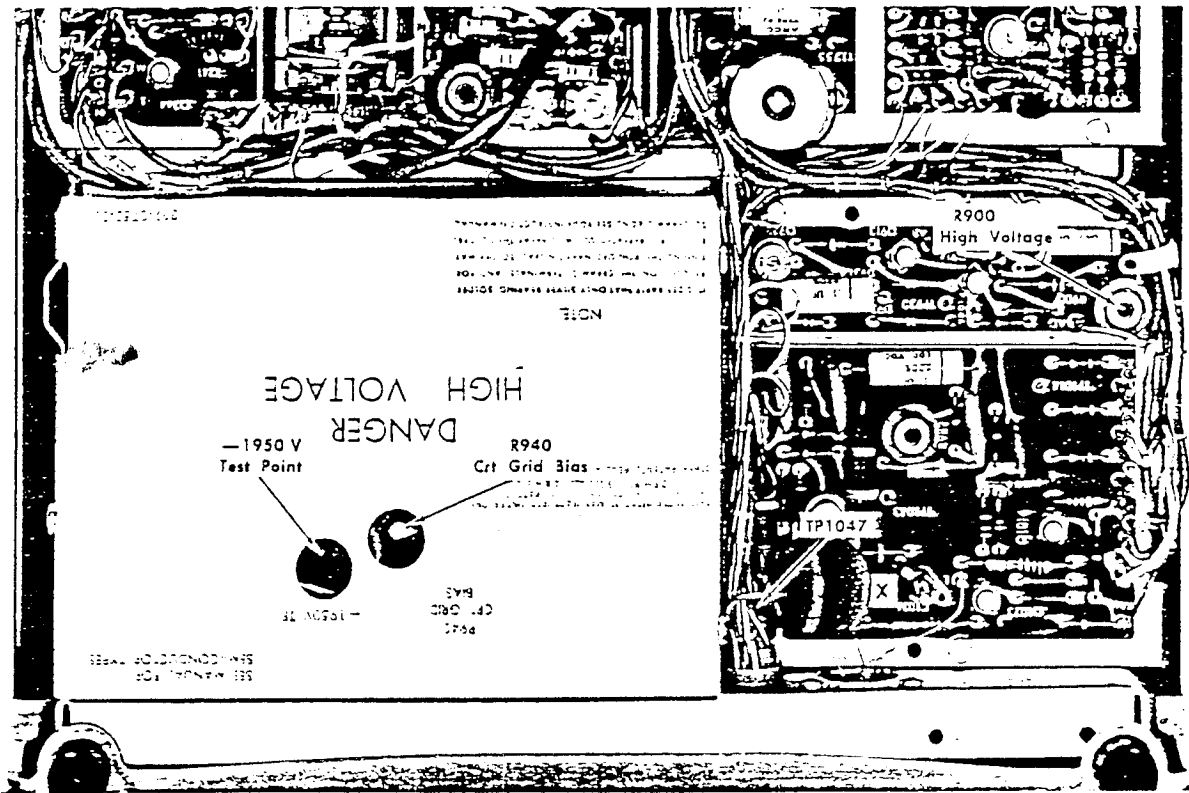

Fig. 6-10. Location of adjustments and test points on Z Axis Amplifier board.
- b. Connect the dc voltmeter from the -1950 V test point (see Fig. 6-10) to chassis ground.
- d. Adjust—High-Voltage adjustment, R900 (see Fig. 6-10), for -1950 volts.
- b. Connect the dc voltmeter from TP1047 (Z Axis Amplifier board; see Fig. 6-10) to chassis ground.
- e. Adjust—Crt Grid Bias adjustment, R940 (see Fig. 6-10), so the spot just disappears.